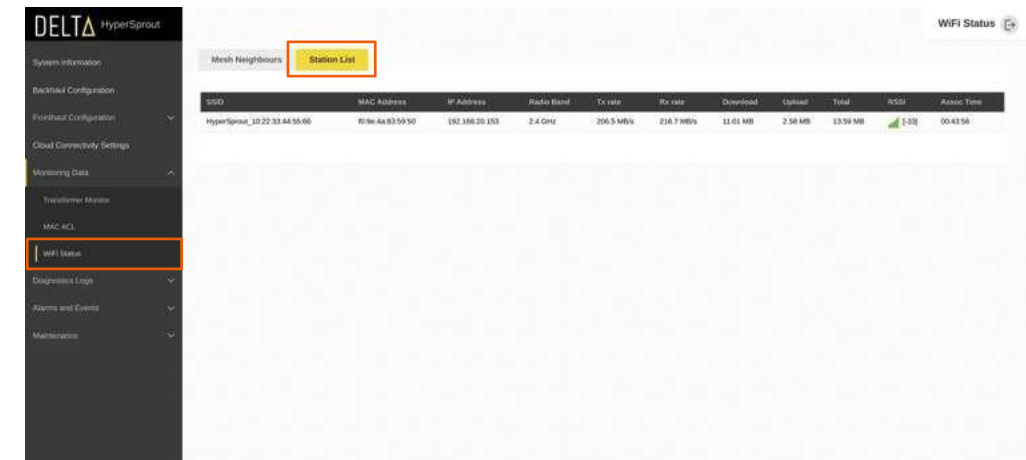

Figure 59: Wi-Fi Status Station
- Any connected digital endpoint clients will be noted under the *Station List* tab as shown in *Figure 59*.